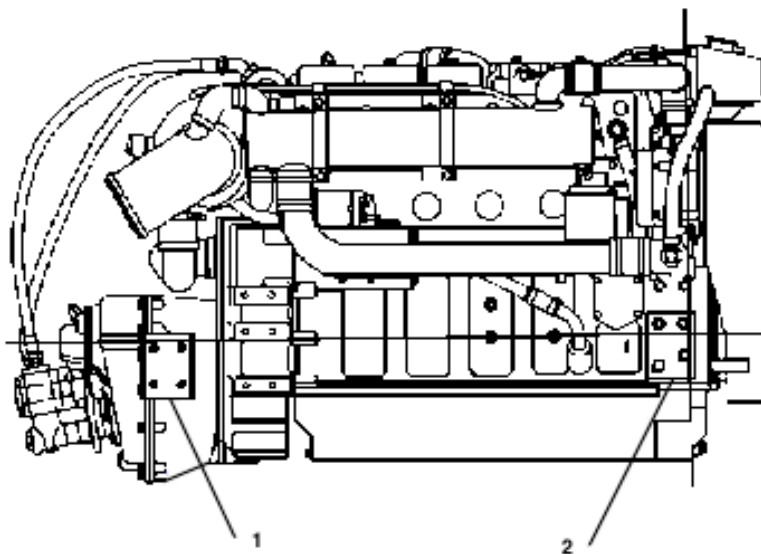

Figure 5: Engine Mounting Locations
Cummins Marine recommends the use of a flexible mounting system. If a solid engine mounting system is used, it is recommended that proper support brackets be used for solid mounting the engine and gear (see figure 5). Use the mounting pads on the marine gear (1) and rear of the engine (2) to absorb the propeller thrust